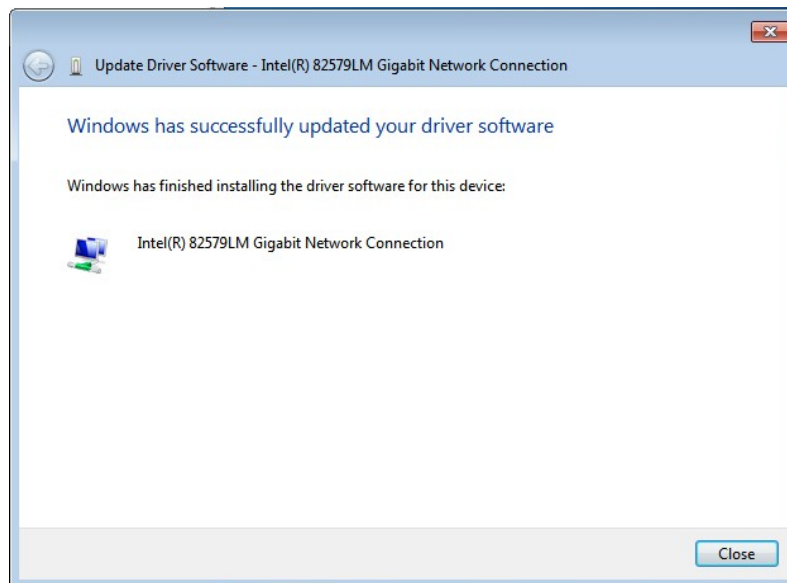

Figure 6-19: LAN Driver Installation Complete
Step 12: The **Finish** screen in **Figure 6-19** appears. Click **Close** to exit.